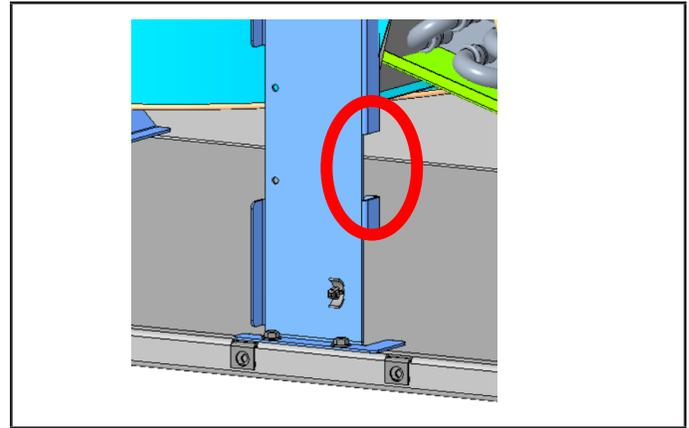
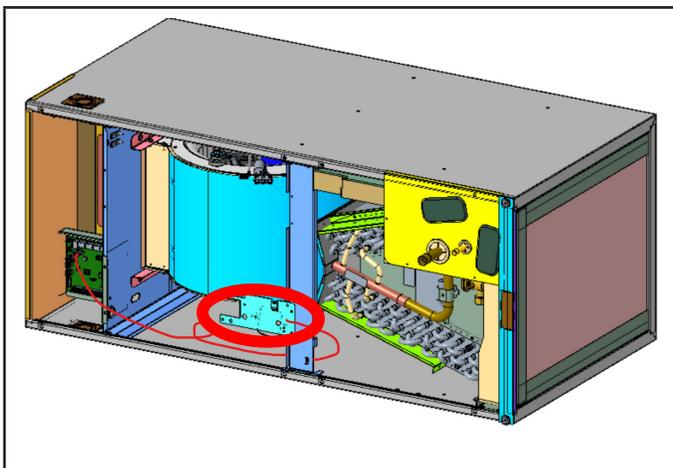

FIGURE 11
FIGURE 10
- 4 - Ensure sensor wire routes to the right hand side, as viewed from the front of the unit. The wire must route through the slotted opening in the center support bracket. See FIGURE 10 and FIGURE 11.